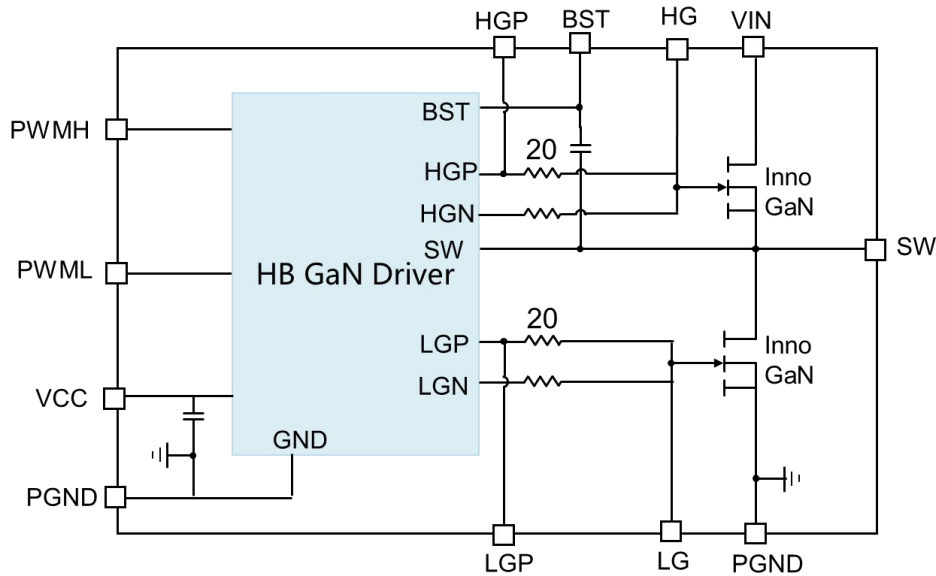

Figure 1. Block diagram of ISG3201
Block Diagram of ISG3201 is shown as Figure 1. A half-bridge GaN driver and two 100V GaN HEMTs are integrated. Besides, Vcc decoupling capacitor, Bootstrap capacitor, internal 20Ω turn-on resistor for both GaN HEMTs are also integrated. Turn-on speed can be adjusted by an optional resistor between HGP(LGP) pin and HG(LG) pin for top (bottom) GaN HEMT.